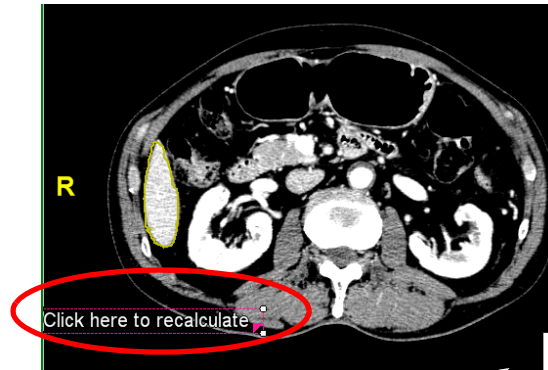

Figure 3-60 Calculated Volume
- When you are finished, calculate the volume by clicking the text on the image that reads **Click here to recalculate**. (Figure 3-60)